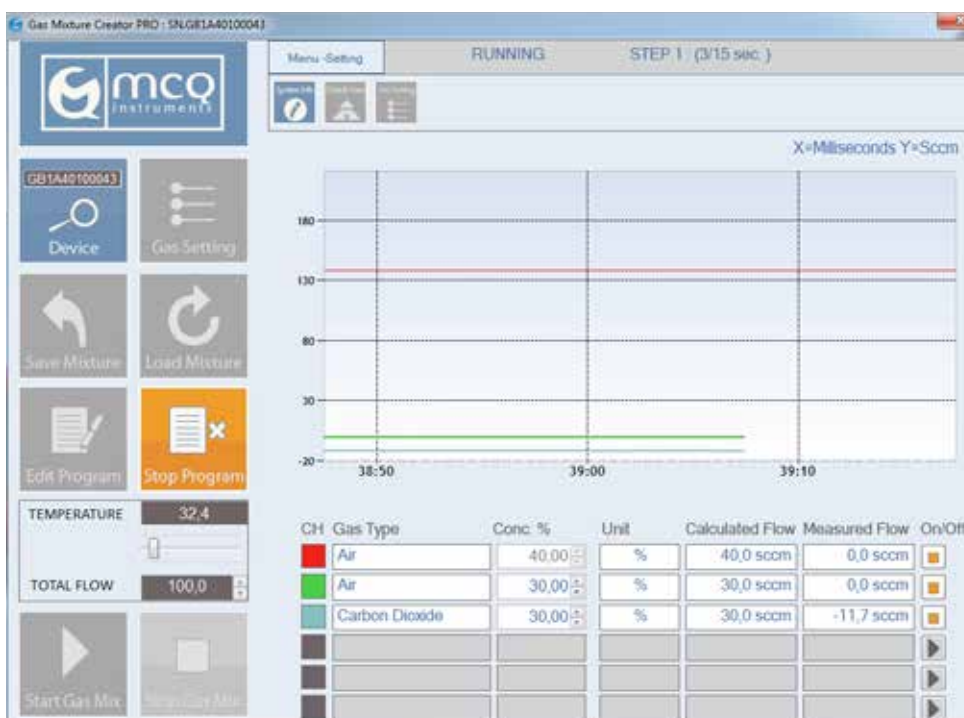

Fig. 35
- If a program will be activated, the icon "**Run Program**" change its color in **orange** (Fig. 35) and you can control the steps you have memorized in the upper part of the main window.